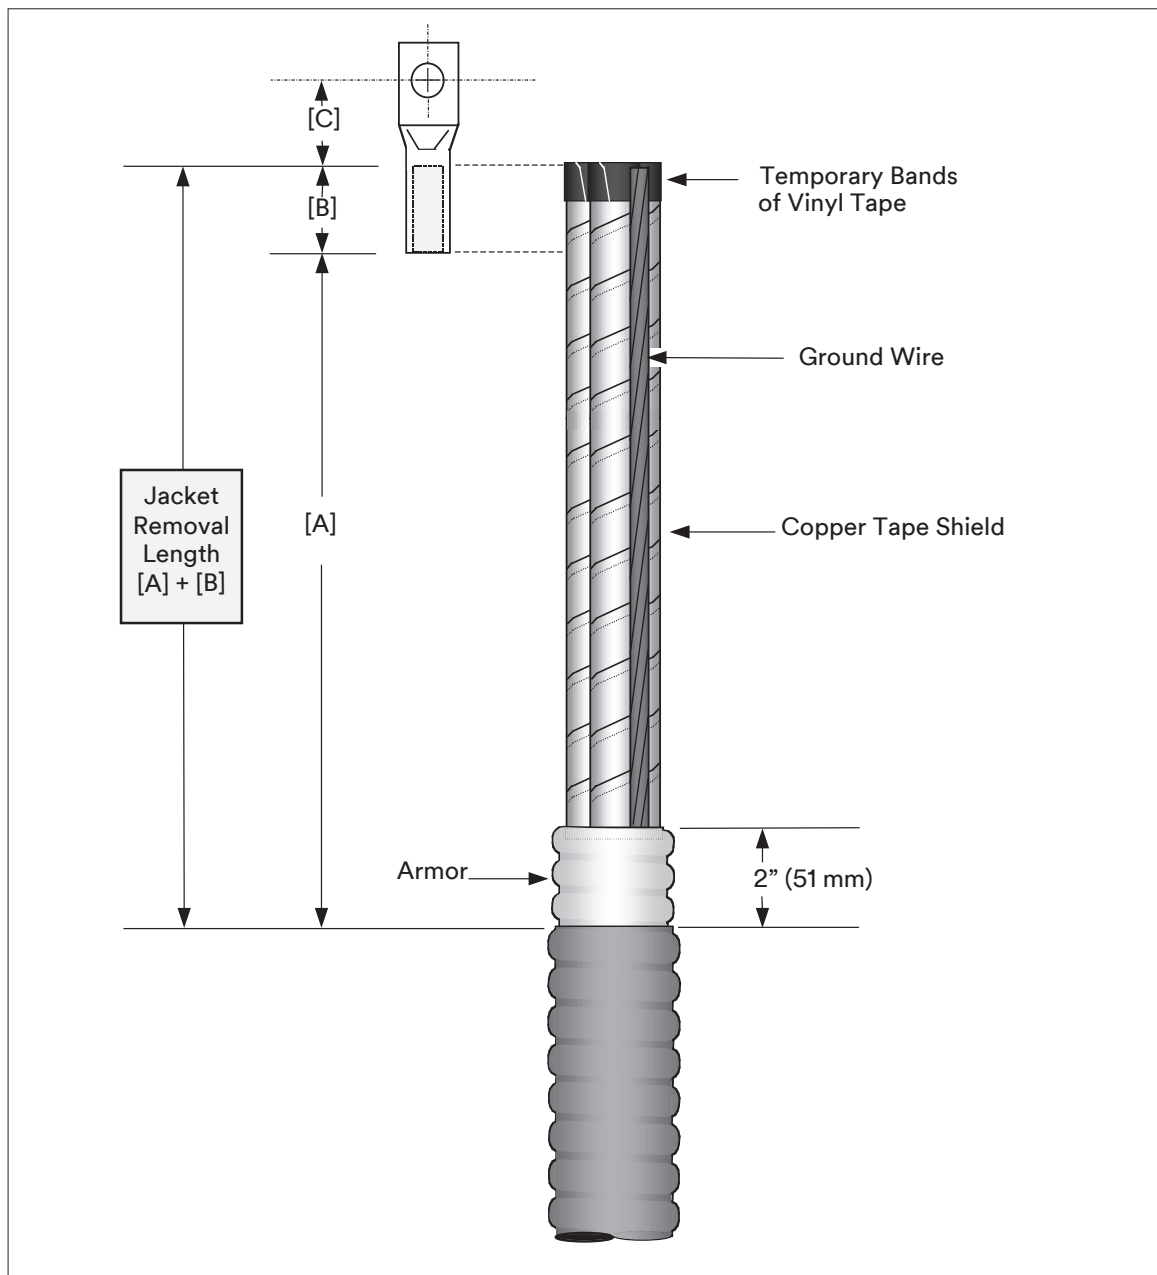

Figure 1
- 2.1 Determine cable jacket removal length required for correct phase spacing and bolted terminal lug connections ([A] + [B] Figure 1; based on the longest phase to be connected). Allow for dimension [C] as needed.
- 2.2 Remove cable jacket, armor, bedding (inner sheath) and core fillers according to Figure 1 dimensions. Secure copper tape shield ends with temporary bands of vinyl tape (Figure 1).